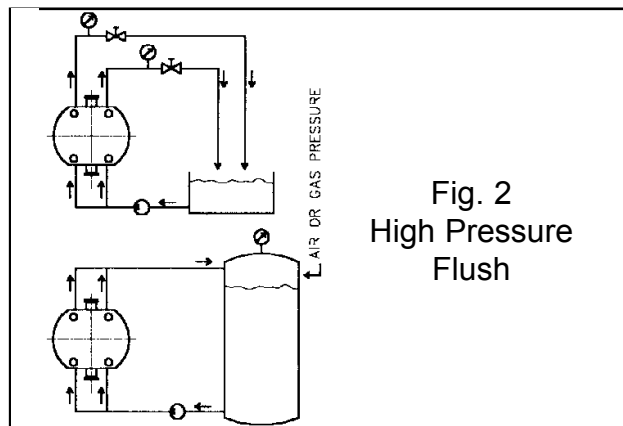

Fig. 2
- a) A high pressure liquid flush (fig. 2) when:**
- Flush liquid must be at a pressure of 1 bar (15psi) above the discharge pressure of the 55 Series pump and should flow at 35 to 55 litres/hour (10 to 15 US gal/hour) per seal. See Figure 2.